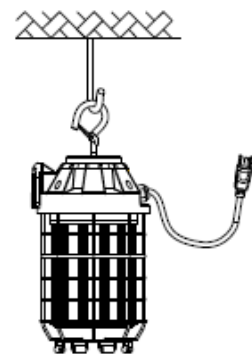

Figure 2
STEP 3: Hang the fixture to a ceiling hook or similar. (Figure 2)